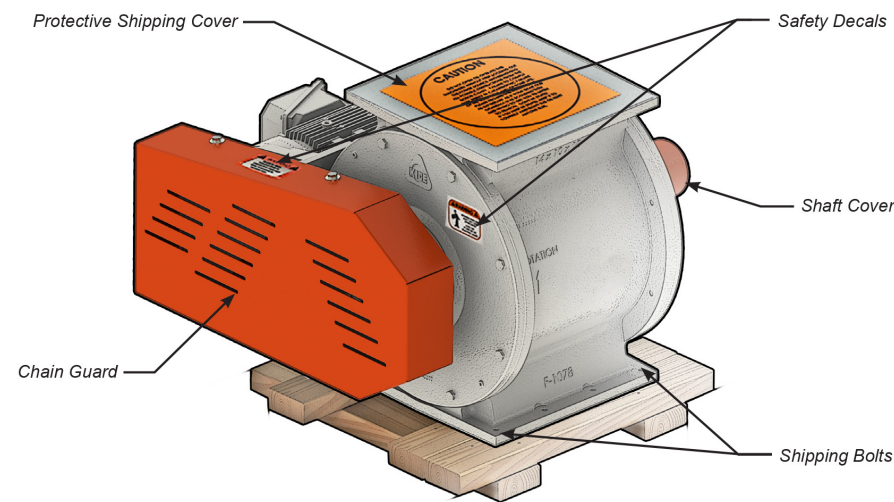

Figure 3
1. If damaged, remove the shaft cover located on the non-drive end of the shaft and the chain guard (see Figure 3).
1. Remove the shipping bolts securing the airlock to the shipping pallet (see Figure 3).
1. Locate and read all safety decals (see Figure 3).
2. Remove the protective shipping cover (see Figure 3).